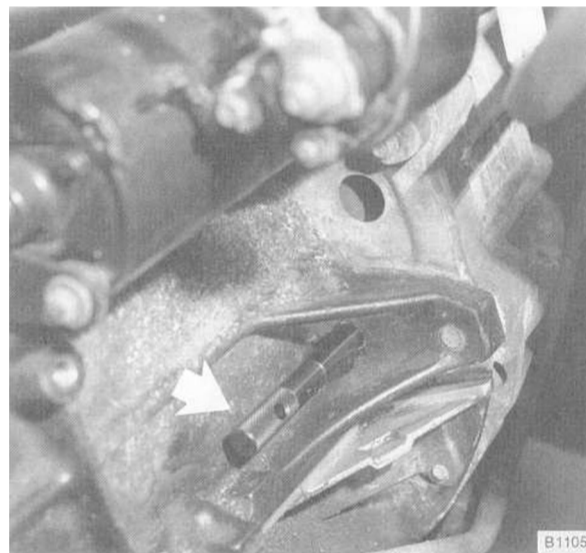

Fig. 20. BMW special tool 11 2 300 inserted through bellhousing hole and into flywheel (arrow).
24. Lock the crankshaft at TDC by inserting BMW special tool no. 11 2 300 through the transmission bellhousing and into the hole in the flywheel or drive plate. See Fig. 20.